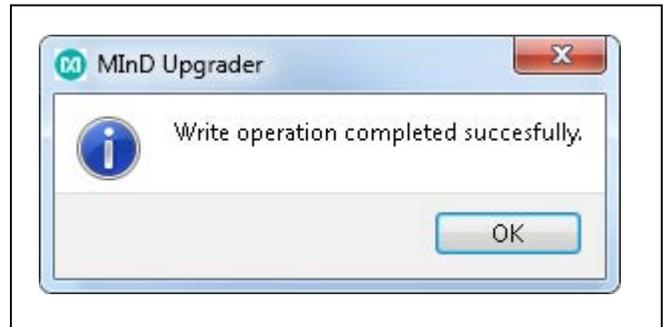

Figure 34. Completion Message
- 5) When the uploading is terminated successfully, the message shown in Figure 34 appears. If a failure message appears, see the *Troubleshooting* section.